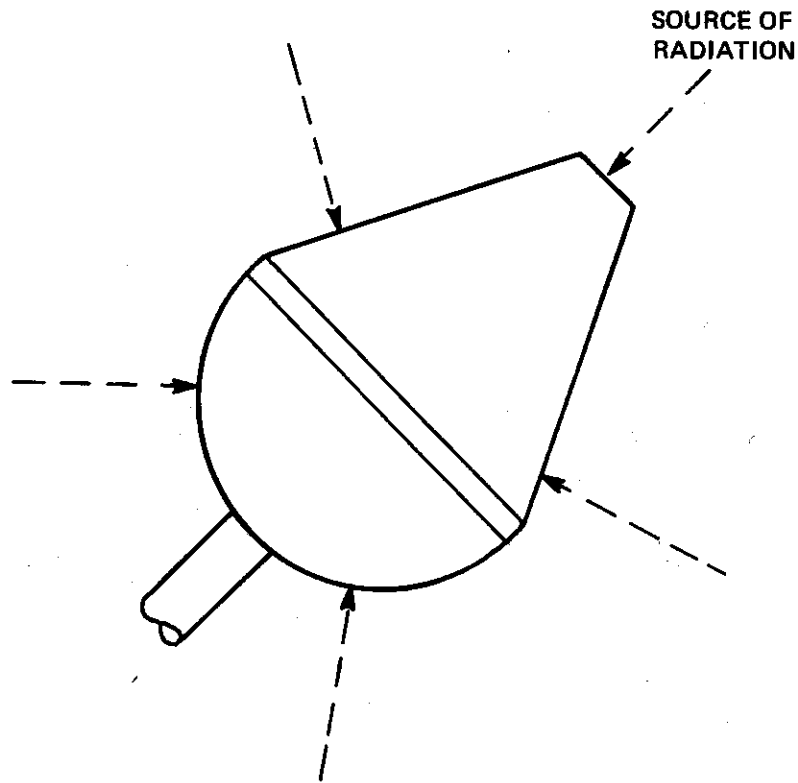

Figure 2. Isotropic Radiation Sensing Pattern
1-3. **SENSING PATTERN.** Model 84C Probe employs three orthogonally mounted thin-film circuits on glass substrates that provide isotropic response; they detect radiation from all directions except from or through the handle, as shown in figure 2. The probes are factory calibrated to permit field interchangeability with all Model 484 Power Density Meters.
Always approach an unknown field cautiously, starting as far away as possible and extending the RAHAM probe at arm's length toward the energy source. See figure 2. Allow two or three seconds for the instrument to respond. Observe all safety precautions. Do not walk into a suspected radiation field until the power density is determined to be safe.
- (1) Visually inspect area to identify potential or reported radiation hazard source (eg. waveguide joints, cable bends, connectors or cabinet doors).
- (2) Select meter range, based on pre-evaluation of source or on-site reports. If the approximate field strength is unknown, always start with the lowest range setting (0.02).
- (3) Expose probe to field; allow at least 1.5 seconds for measurement of any point in space. Radiation sensing pattern is shown in figure 2.